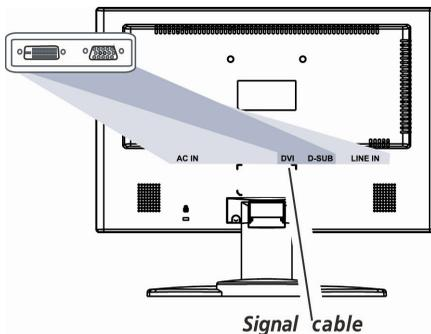
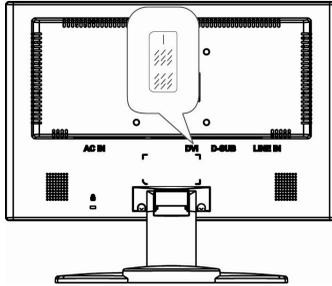

Figure 2a. Connecting the monitor to the PC
Figure 2b. Connection via the DVI-D interface
2. Connect the 15-pin signal cable to the monitor and The PC (see fig. 2a)
3. If you have a graphic card with a digital DVI-D connector(24-pin socket), then connect one end of the DVI-D cable (optional) to the DVI-D connector of your monitor (see fig. 2b), the other end to the computer.
Input: Controls the selection of the input signal. The monitor allows you to make the following connections: analog graphics card via the 15-pin mini D-Sub interface (see fig. 2a), digital graphics card via the 24-pin DVI-D interface (see fig. 2b).